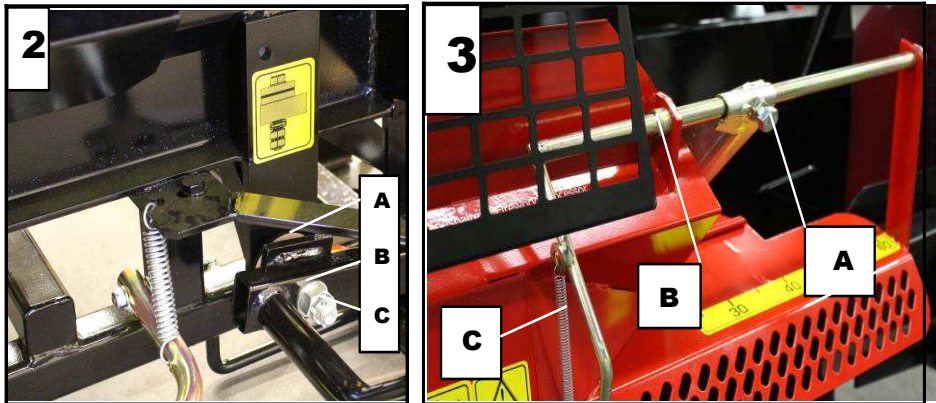

Fig. 2. Installing the adjustment lever for the splitting wedge, Fig. 3. Installing the log-stop,
2.3 Installation of the adjustment lever for the splitting wedge (Fig. 2)